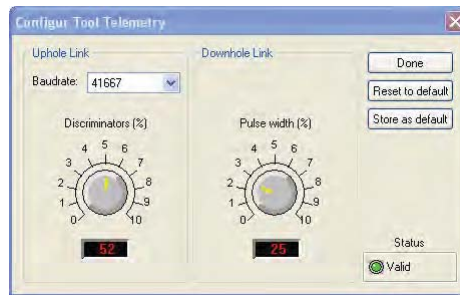
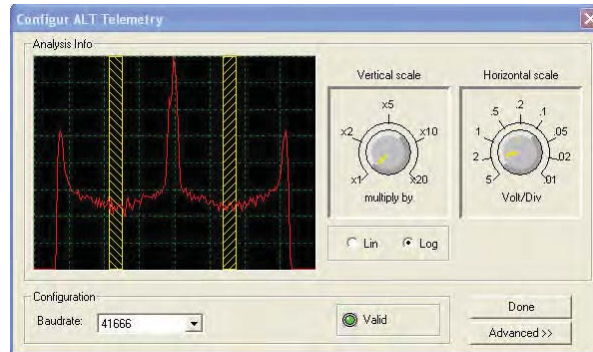

Figure 6-9 Tool communication settings - ALTLog
Figure 6-10 Tool communication settings - Matrix
4. In the **Communication** panel, select **Settings**. Check **baud rate** is set to **41666** and **communication status** is **valid** (Figure 6-9 or Figure 6-10).